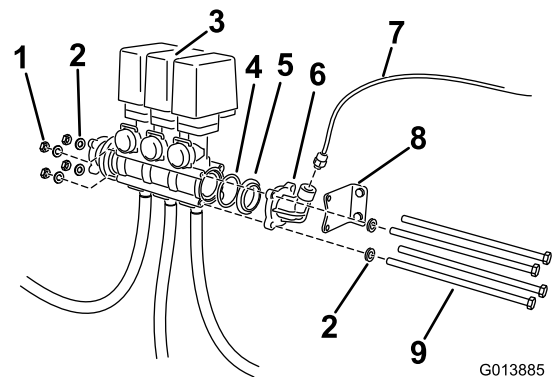

Figure 5
3. Remove the long bolts and fasteners that secure the valve assembly (Figure 5).
4. Remove the pressure gauge port and the male to male adapter (Figure 5).